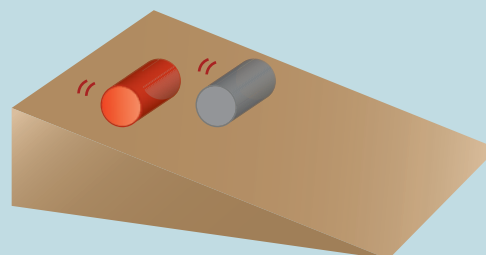

Figure 19
- 18.** Two identical tins of fruit juice, one of which is frozen, are placed at the top of a slope and released at the same time, so that they roll straight down the slope (Figure 19). Which will get to the bottom first? Explain your answer.